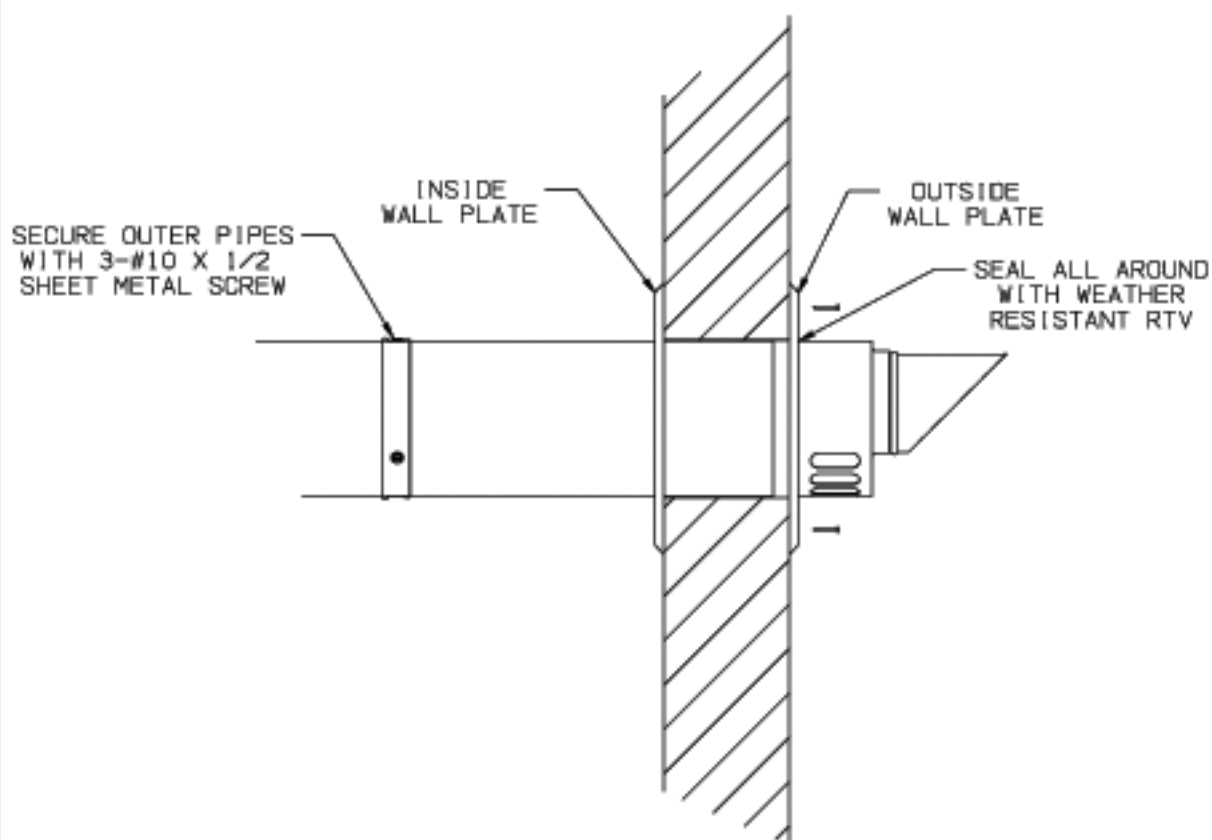

FIGURE 7.33d: COMPLETING 80/125mm HORIZONTAL TERMINAL INSTALLATION
- h) Slip the terminal section through the wall from the outside. Pass the terminal through the inner wall plate and push into the last section of vent pipe until the mark made in Step (h) is not longer visible (Figure 7.33d). Secure the terminal to the last piece of pipe with three #10 x 1/2" sheet metal screws. Drill a 1/8" hole through both outer pipes to start these screws. **Use a drill stop or other means to ensure that the drill bit does not penetrate more than 3/8" into the outer pipe. Do not use a sheet metal screw longer than 1/2".**
- i) Slip the outer wall plate over the terminal and secure to the wall (Figure 7.33d). Apply a 1/8" bead of weather resistant RTV over the joint between the outside wall plate and the terminal. Secure the other wall